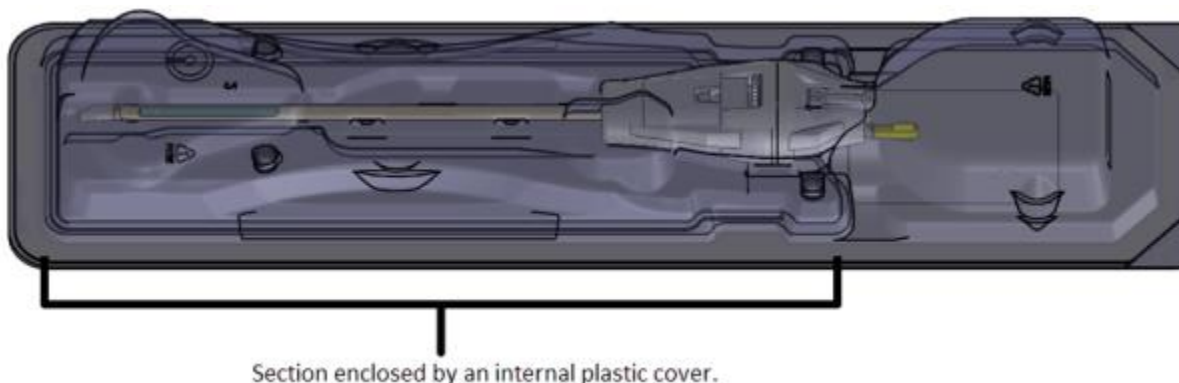

Figure 7: UA sealed inside a sterile package
**NOTE:** MRI Technologist: The ECD is *not* sterile and can be handled accordingly. The UA and contents inside the UA packaging **are** sterile. *Figure 7* shows the UA inside its sealed and sterile package. There is another plastic cover that encloses the UA from its tip to the top of the handle that exposes the UA cable and guidewire inputs and fluid tubes. When you connect the fluid tubes and UA cable, the UA's sterile